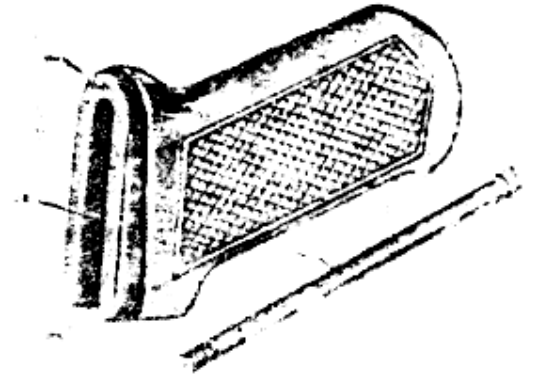

Figure 45. Pistol grip (assy. 8).
The pistol grip (fig. 45) provides more convenience in directing the fire. It has a cap (1) for protecting the pistol grip against splitting, recess (2) for the base of the pistol grip, groove (3) for trigger guard, a recess for the screw washer, and a channel on the inside for passing the pistol grip screw.